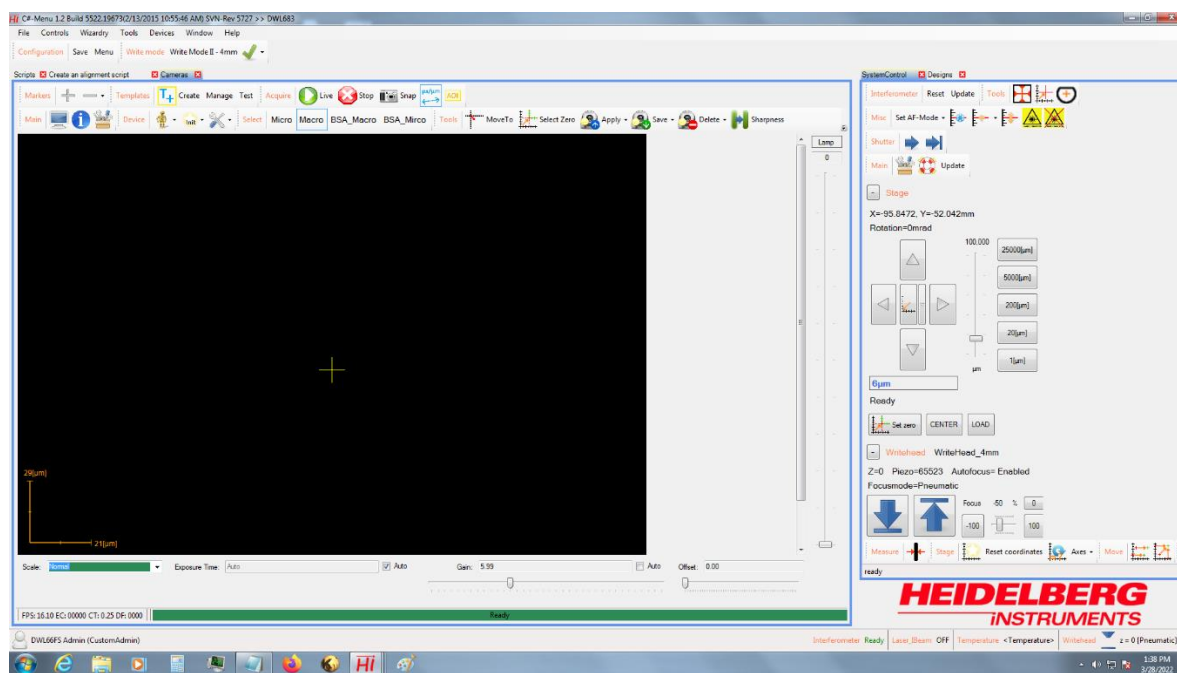

Figure 6
29. Once the Hi software is on, the screen will look like as shown in Figure 6.